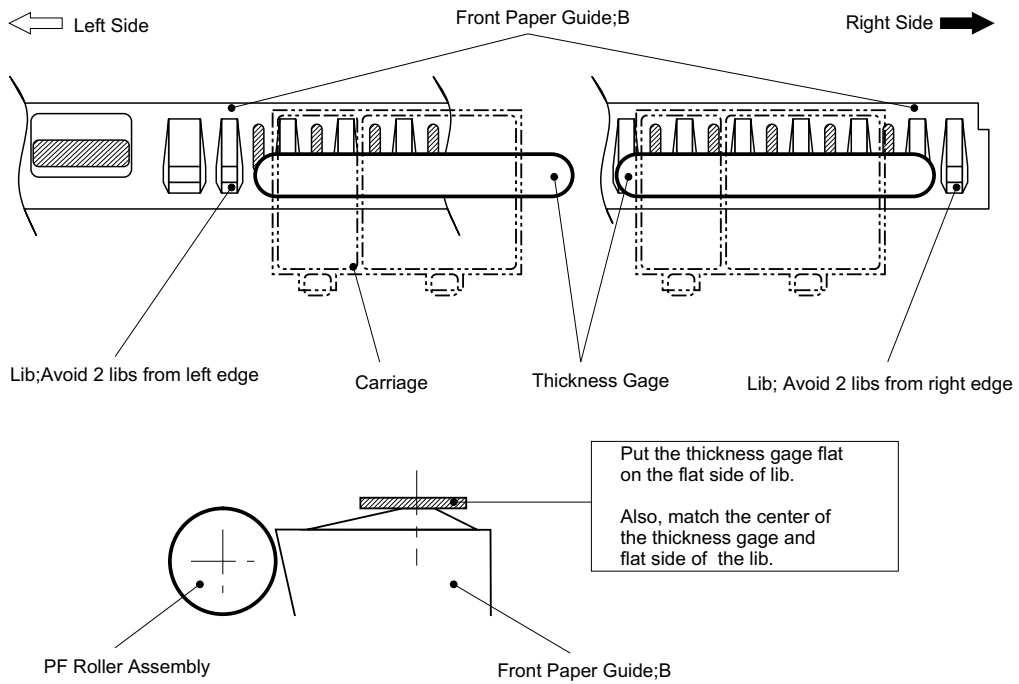

Figure 4-1. Setting of the Gage at Parallel Adjustment
3. Move the carriage to the center and set the thickness gage on the fixed position of front paper guide ;B as you can see in the figure 4-1 on the next page